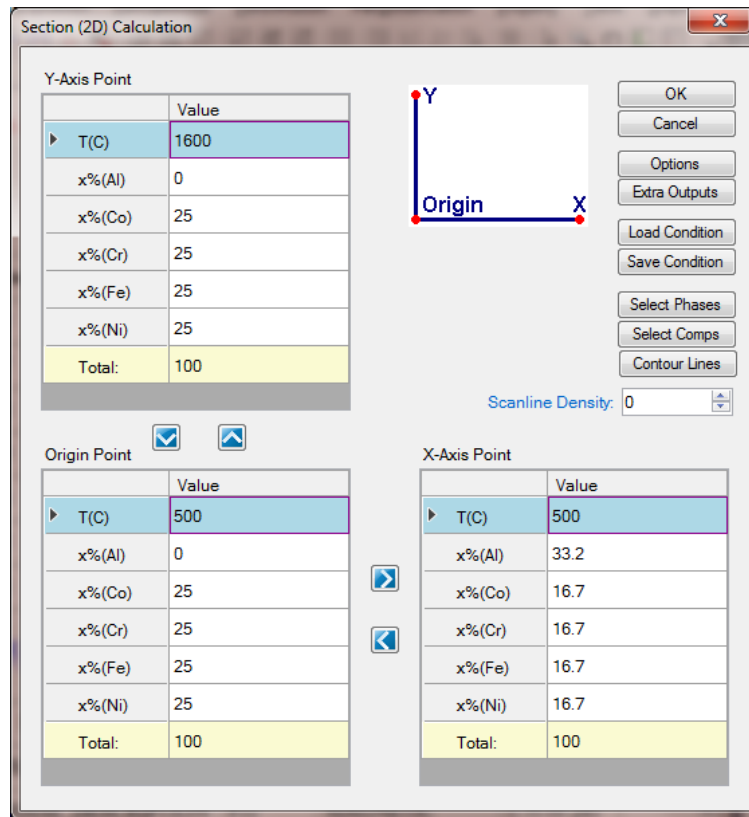

Figure 1.20.2: Setup calculation for the isopleth $\text{CoCrFeNi}-\text{Al}_x\text{CoCrFeNi}$
- Perform a Section Calculation from PanPhaseDiagram, and set the calculation condition as shown in Figure 1.20.2;